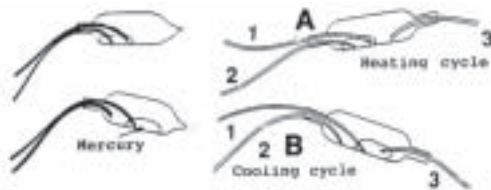

Figure 172
- 4. Thermostats that operate on the principle of changes in volume with changes of temperature, such as the mercury type. (See fig. 172.)
Figure 172 shows a small pool of mercury in a glass bulb. As the room temperature goes up, the volume of mercury increases, causing the balance to change and the bulb tilt, connecting or disconnecting a circuit.